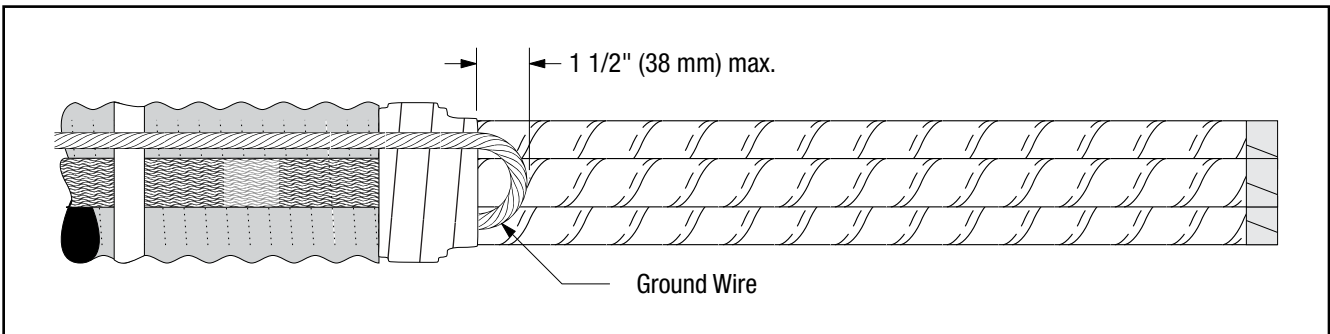

Figure 5
- 3.4 Loop cable ground wire back over jacket and armor (if applicable) (*Figure 5*). Adjust ground wire position over cable jacket to run parallel with tail of ground braid assembly, when cable is armored.